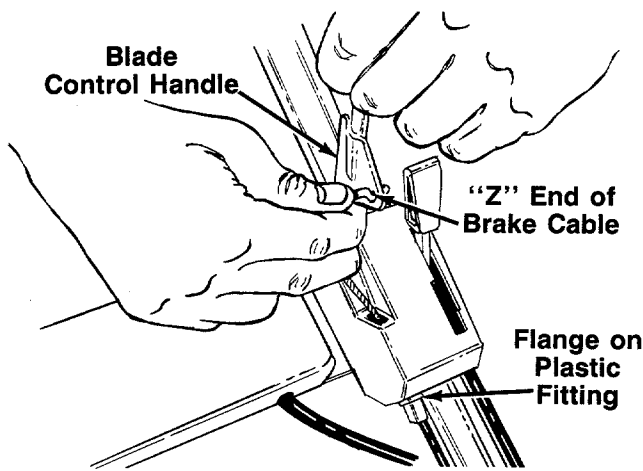

FIGURE 5.
6. Snap the plastic fitting on the end of the cable into the throttle control housing. Hook the "Z" end of the brake cable into the hole in the blade control handle. See figure 5.